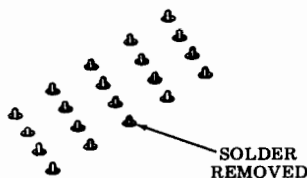

Fig. 14—Connector Pins
- Remove solder from around connector pins of cable to be removed (Fig. 14).
- (b) Remove solder from around connector pins of cable to be removed (Fig. 14).